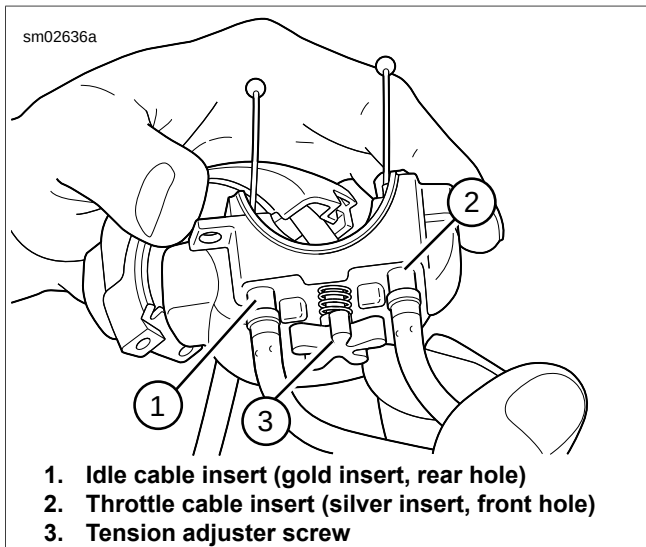
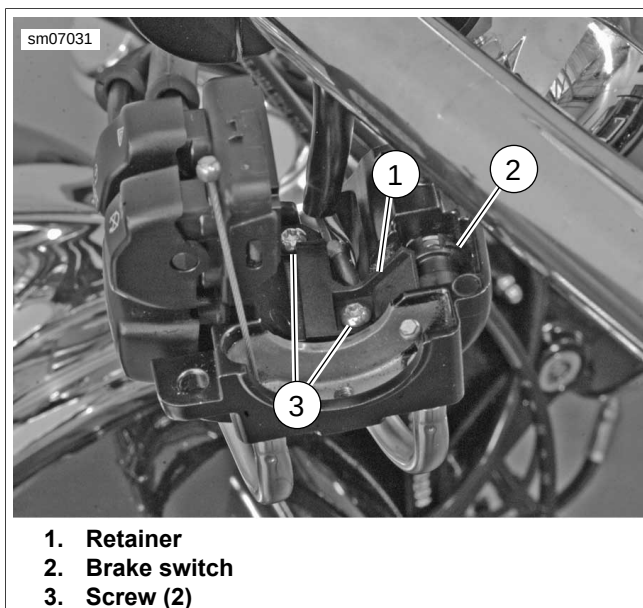

Figure 7-110. Right Lower Module Housing
Figure 7-111. Right Control Module and Brake Switch Retainer
10. See Figure 7-110. If replacing lower switch housing, pull inserts (1, 2) from lower switch housing. Use a rocking motion while pulling. Place a drop of light oil on the retaining rings, if necessary. Remove the cables from the switch housing.
11. See Figure 7-111. Remove screws (3) and retainer (1).
1. See Figure 7-111. Place switch assembly into position on lower switch housing and carefully install brake switch (2).
2. Install retainer (1) with screws (3). Tighten screws to 8-10 **in-lbs** (0.9-1.1 Nm).
3. See Figure 7-110. If previously removed from lower switch housing, push the throttle and idle control cables into the lower switch housing until they snap in place. Note the different diameter inserts crimped into the end of the throttle and idle cable housings.
- a. Push the silver insert (2) of throttle cable housing into the hole in front of tension adjuster screw (3).
- b. Push the gold insert (1) of idle cable housing into the hole at the rear of tension adjuster screw (3).
2. See Figure 7-111. From inside the switch housing, remove screws (3) and retainer (1). Remove brake switch (2) from housing.
8. See Figure 7-111. Install brake switch (2) into housing. Install retainer (1) and screws (3). Tighten screws to 8-10 **in-lbs** (0.9-1.1 Nm).